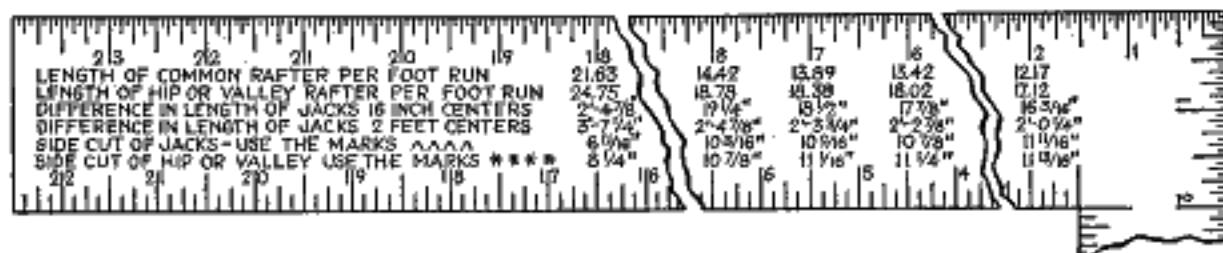

FIG. 100.—Rafter table on a rafter square.
*Method 2. Use of Rafter Table.*—Probably the simplest method of determining the length of a rafter is to use a rafter table. Figure 100 shows such a table on a rafter or framing square. To use it, proceed as follows: Determine the rise per foot of run for the particular rafter to be marked out. Find this figure on the body of the square. Under this figure will be found another figure which is the length of common rafter per foot of run. Multiplying this figure by the total feet of run in the rafter gives the total length.